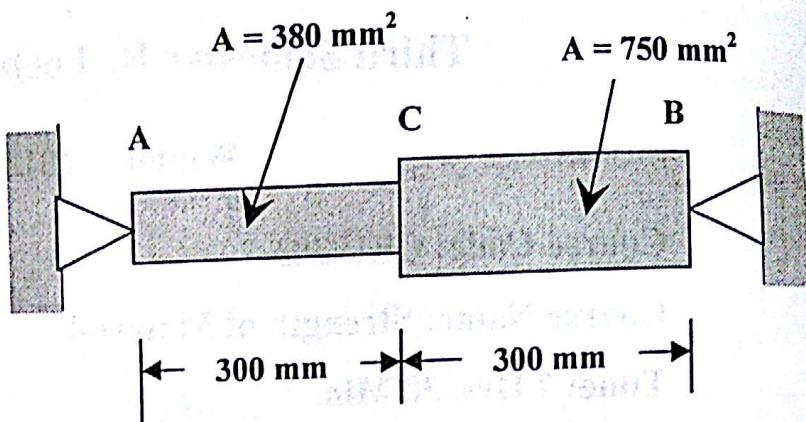

Figure No. 1 (a)
- a) Determine the values of the stress in portions AC and CB of the steel bar shown in Figure No. 1 (a) when the temperature of the bar is -45°C , knowing that a close fit exists at both of the rigid supports when the temperature is $+24^{\circ}\text{C}$. Use the values $E = 200 \text{ GPa}$ and $\alpha = 11.7 \times 10^{-6}/^{\circ}\text{C}$ for steel. 6